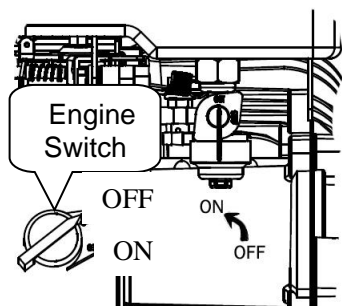

Fig 4-10
3.1.1 Turn the fuel valve ON. ( Fig 4-10 )
3.1.4 Turn the engine switch to the " ON " position ( Fig 4-10 )